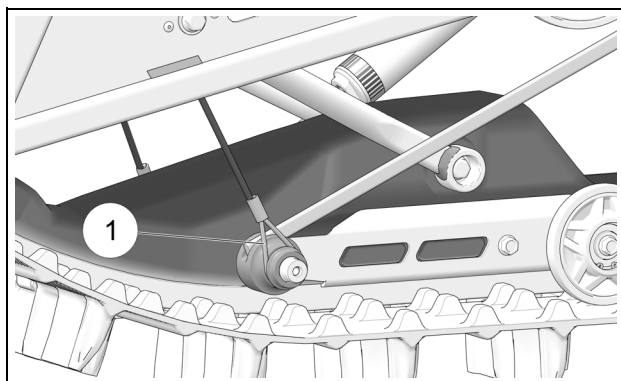

Figure 14
- Depress suspension to allow removal of limiter cable loop (1) from groove in spring support bushing. See Figure 14.